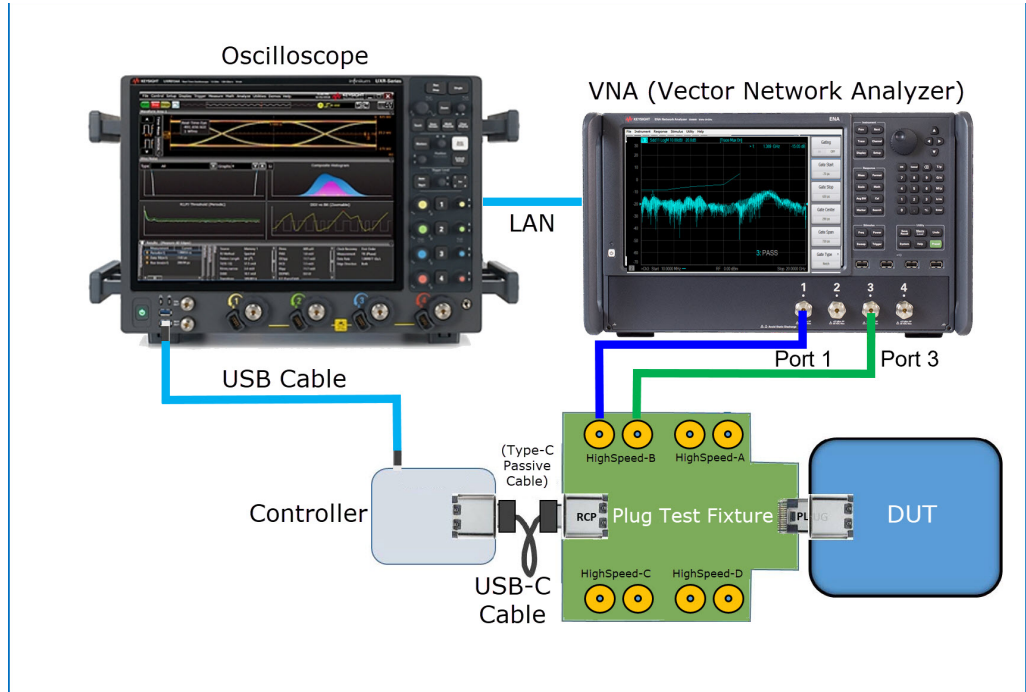

Figure 67 Tx Return loss test setup with Tx SMA test fixture connected to VNA
- 1 For the physical connections between the DUT & the Oscilloscope, see the connection diagrams in Figure 67 and Figure 68.